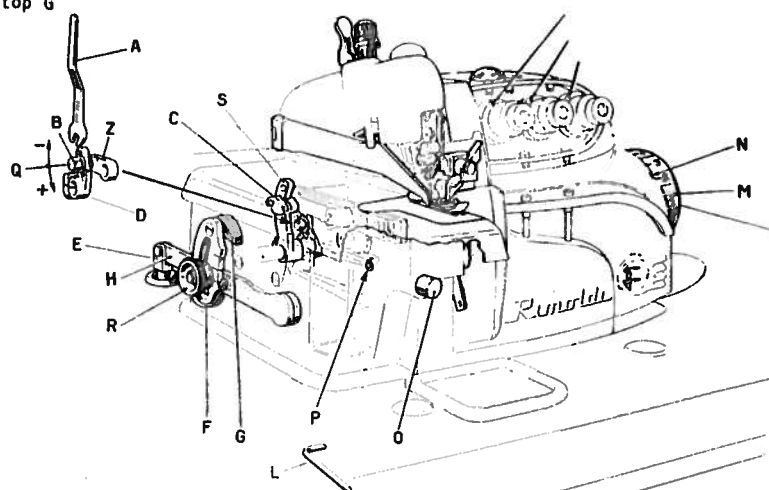

fig. 14
9) ADJUSTMENT OF DIFFERENTIAL OR FRONT FEED (fig. 14)